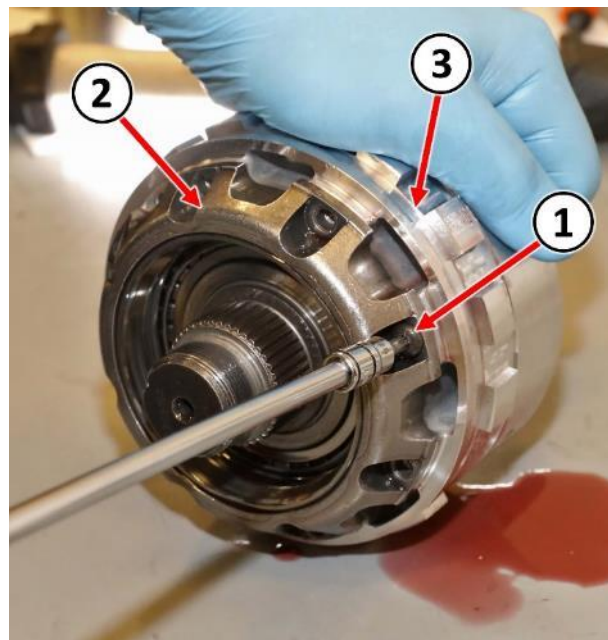

Figure 39 – Bearing Retainer
54. Remove the remaining screws (1) securing the bearing retainer (2) to the compound low clutch (3) (Figure 39).
55. Remove the bearing retainer (2) from the compound low clutch (3) (Figure 39).
60. Install the bearing retainer (2) to the lower clutch (3) (Figure 39).
61. Install four compounder bearing retainer screws leaving four screws out for installation of Puller Adapter 9908 (Figure 39).